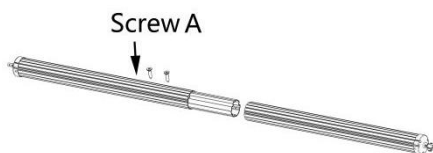

Figure C8
3.4.1 Take out the awning roller tube and the matching inner connecting pipes, connect them as shown in the figure, and fix them with self-tapping Screws A to form a whole. (Figure C8)